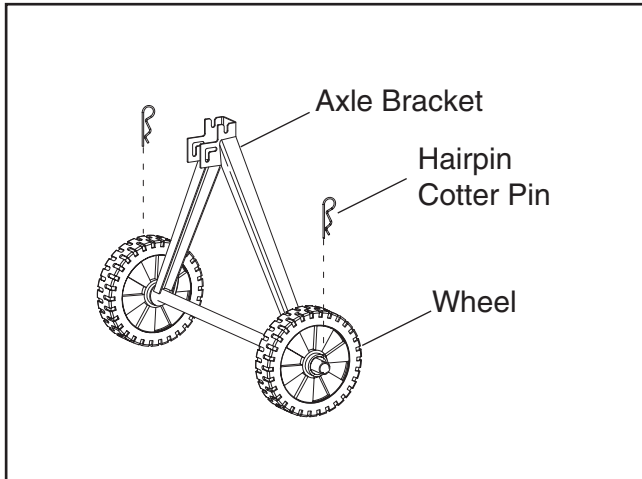

Figure 4. Wheels installed on axles.
1. Insert the wheels on the axles and secure them in place with the hairpin cotter pins, as shown in **Figure 4**.